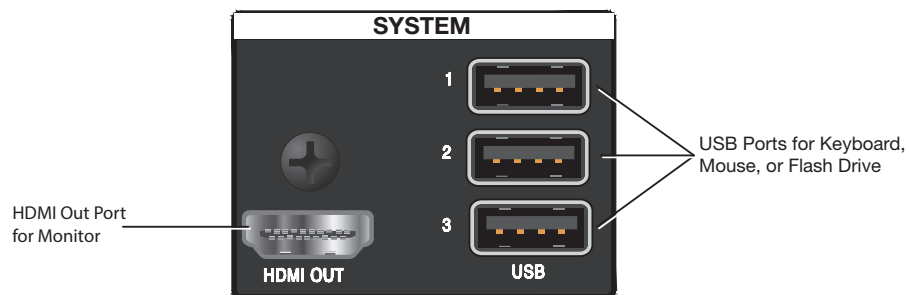

Figure 45. System Ports for Keyboard, Flash Drive, or Mouse and Monitor
1. Connect a USB keyboard and mouse to the USB system connectors on the rear panel (see figure 45). You can also connect a USB flash drive to a USB system connector to load and manage picture files or upload new firmware.
1. Connect the external USB drive containing the images to one of the rear panel System USB ports (see figure 45 on page 50).